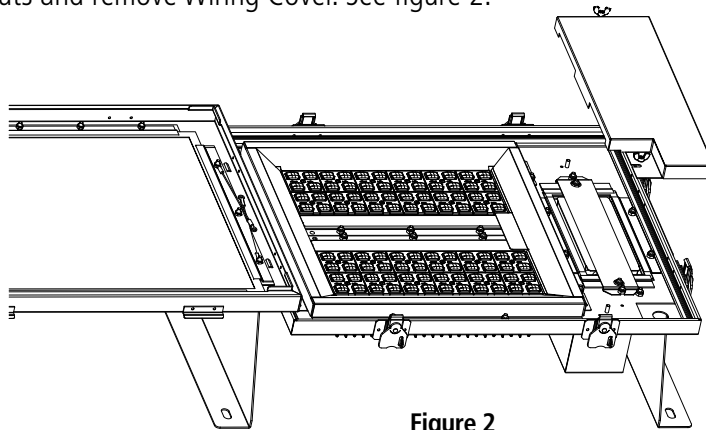

Figure 2
3. Loosen wing nuts and remove Wiring Cover. See figure 2.
2. Loosen wing nuts and remove Wiring Cover. See Figure 2.